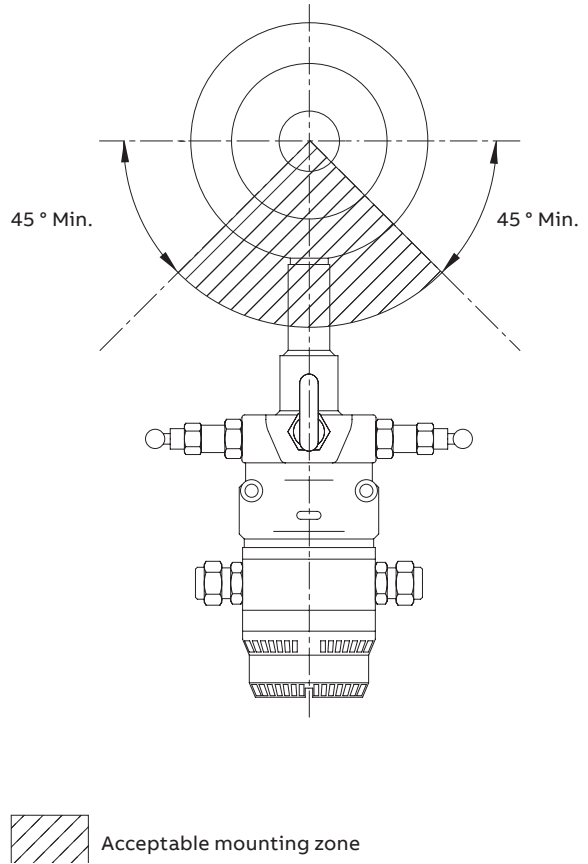

Figure 3 Horizontal pipe mounting – liquids and steam
To ensure that gases vent back into the pipe, mount the meter below the pipe, at least 45 degrees below the horizontal – see Figure 3.
- for horizontal pipe mounting – liquid, refer to Figure 3, page 6.
Referring to Figure 3, page 6: